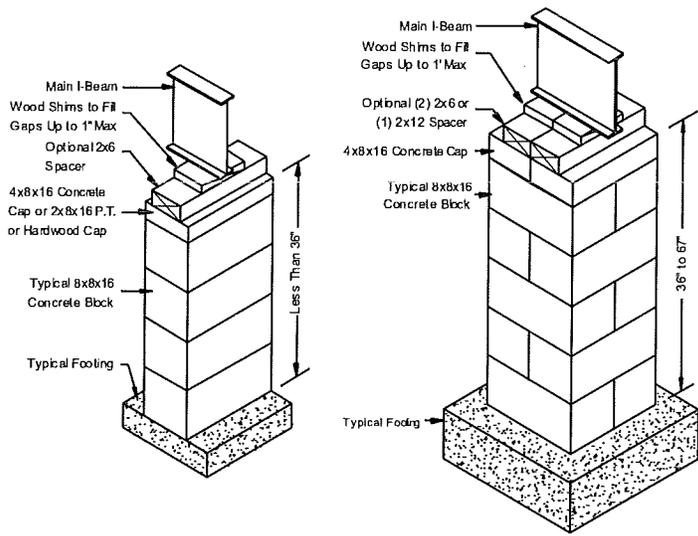

Figure 18. Frame pier construction
- 2. Stack blocks.** Stack concrete blocks with their hollow cells aligned vertically. When piers are constructed of blocks stacked side-by-side, orient each layer at right angles to the previous one (Figure 18) and plan blocks so that split caps will be perpendicular to the blocks they rest on and to the I-beam.
4. **Install shims.** Use shims to level the home and fill any gaps between the base of the I-beam and the top of the pier cap. Always use shims in pairs (Figure 18). Drive them in tightly so they do not occupy more than one inch of vertical space. When the space to be shimmed is greater than one inch and less than the minimum thickness of available caps or concrete blocks, use hardwood dimensional lumber (two inches maximum thickness) or 2" or 4" thick concrete block. For split caps, install shims and dimensional lumber/blocks over each individual cap.